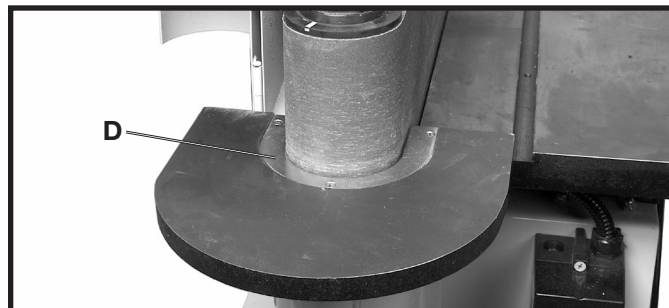

Fig. 44
3. The table can also be positioned on the oscillating belt by removing the table insert, and sliding the table down around the oscillating belt. Replace the table insert with the 4" table insert (D) Fig. 44, when using the sander table on the oscillating belt.